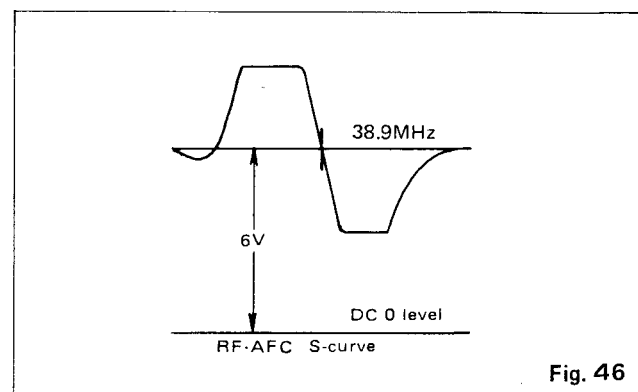

Fig. 46
2. Realign the T103 so that the 38.9MHz marker DC level becomes 6.0V (see Fig. 46).